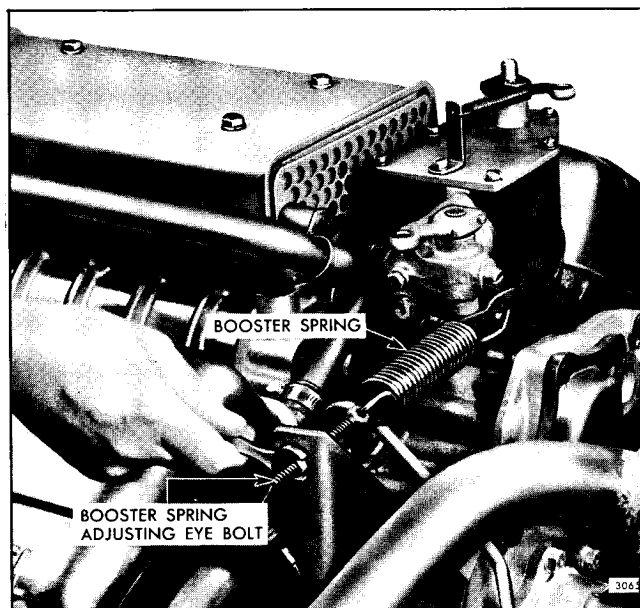

Fig. 6 - Adjusting Booster Spring
1. Refer to Fig. 6 and disconnect booster spring and the retracting spring.
1. Refer to Fig. 6 and loosen the booster spring retaining nut on speed control lever. Loosen the lock nuts on eye bolt at opposite end of spring.